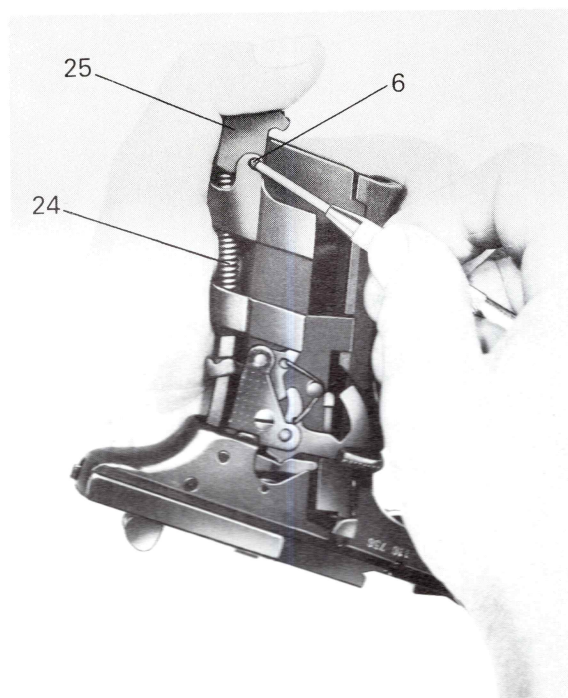

Fig. 18
- Remove the magazine catch (25) by pressing out the cylindrical pin (6) (Fig. 18) and removing the compression spring (24).